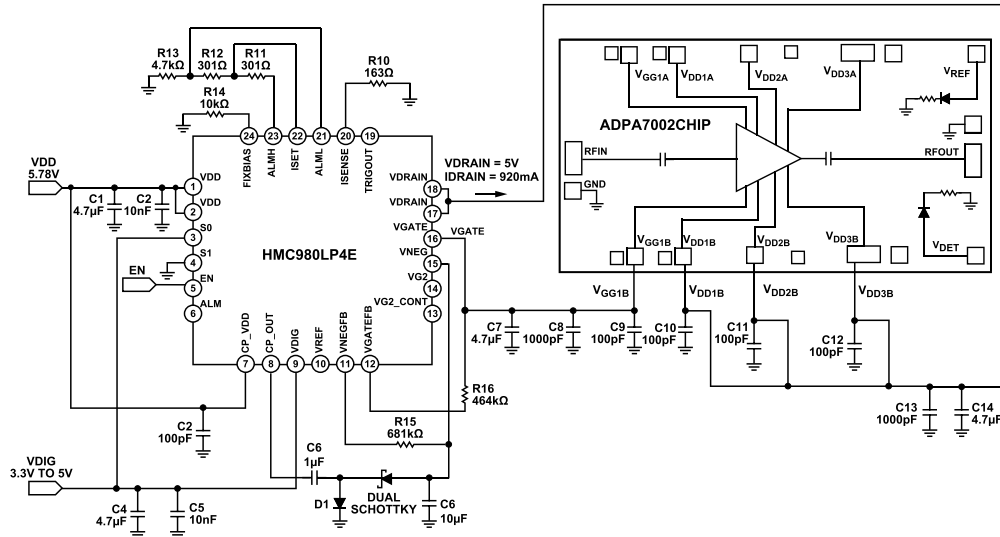
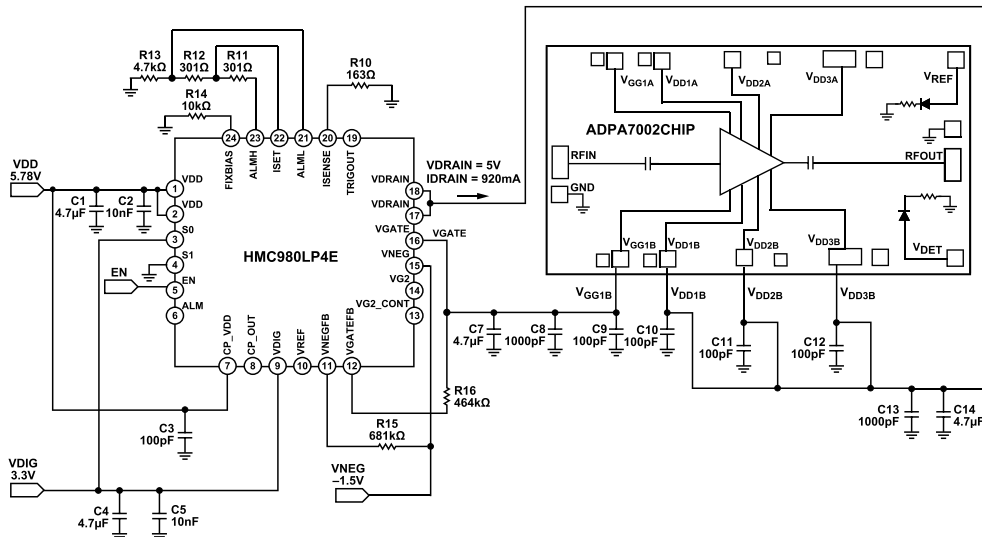

Figure 59. Application Circuit Using the HMC980LP4E with the ADPA7002CHIP
Figure 60. Application Circuit Using the HMC980LP4E with the ADPA7002CHIP as an External Negative Voltage Source
Figure 59 shows a schematic of an application circuit of the HMC980LP4E used with the ADPA7002CHIP biased at 920 mA. In this circuit, the negative gate control voltage is generated by HMC980LP4E. Figure 60 shows an application circuit using an external negative supply.
When using the ADPA7002CHIP with the HMC980LP4E, limit the minimum voltages for VNEG and VGATE to -1.5 V to keep the voltages within the absolute maximum ratings (AMR) limit for the ADPA7002CHIP V_{GGx} pad. This is accomplished by setting the R15 resistor and the R16 resistor to the values shown in Figure 59 and Figure 60. Refer to the AN-1363 application note for more information and calculations for R15 and R16.
1. Set VDIG, the voltage supply input (Pin 9) for the HMC980LP4E digital circuit (see Figure 60) to 3.3 V.
2. Set S0, the digital control pin (Pin 3) that sets the internal field effect transistor (FET) and the internal HMC980LP4E resistor (RDS) resistance (see Figure 60) to 3.3 V.